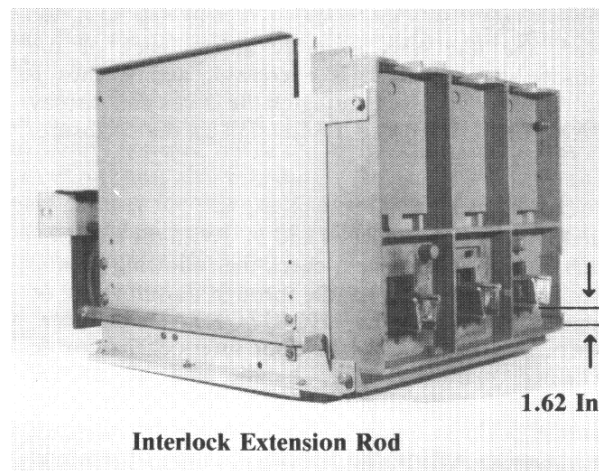

Figure 6
When the vertical rod to the isolation switch is moved downward, it causes the horizontal interlock extension rod on the side of the isolation switch to move forward to lock the isolation switch handle. The handle locking mechanism is shown in Figure 6 and its adjustment is described in the Maintenance and Repair Section.
- 1) Move the operating handle through its full range of operation from the HORIZONTAL position, through OFF to ON (the door interlock has to be cheated manually). The handle and all of the operating mechanism of the switch should move freely, without binding. This includes the interlock mechanism behind the handle, the line fingers and carrier, the insulating shutter at the back of the switch, and the shutter operator. Make sure the Flex-Loc nut fastening the carrier link (15) had full thread engagement, but allows the link to pivot freely.
- 3) When the isolation switch interlock extension rod (See Fig. 6), is pushed toward the front of the switch, the mechanical interlock must lock the handle mechanism, preventing handle movement in either the OFF or ON position. In the OFF position, it is normal for the shutter to open slightly when an attempt is made to force the interlocked handle. The shutter should never come in contact with the line fingers.
- 4) Adjust the position of the ground bar (18) so that the grounding fingers (19) are deflected by the guide rail (21) and the phase barriers are pushed tight against the rear insulating barrier of the switch.
- 5) With the handle in the OFF position, move the cam follower mounting bracket attached to the guide rail (21) toward the operating handle until the tip of the shutter operator extending thru the shutter just touches the left end of the slot in the rear barrier.
- 2) Adjust the insulating link (15) and the guide rail (16) to obtain $1.62 \pm .12$ inches from the bottom of the line fingers to the inside rim of the rear insulating barrier. (See Figure 6). Tighten the bolts fastening these two pieces.
- 3) Adjust the rocker latch (23) so that when the handle moves from the OFF to the ON position, the rocker latch clears the handle clevis (22) by .03 to .06 inches. This is done by tightening or loosening the adjusting clevis (24). Make sure the cotter pin is reinstalled in the clevis pin after this adjustment.